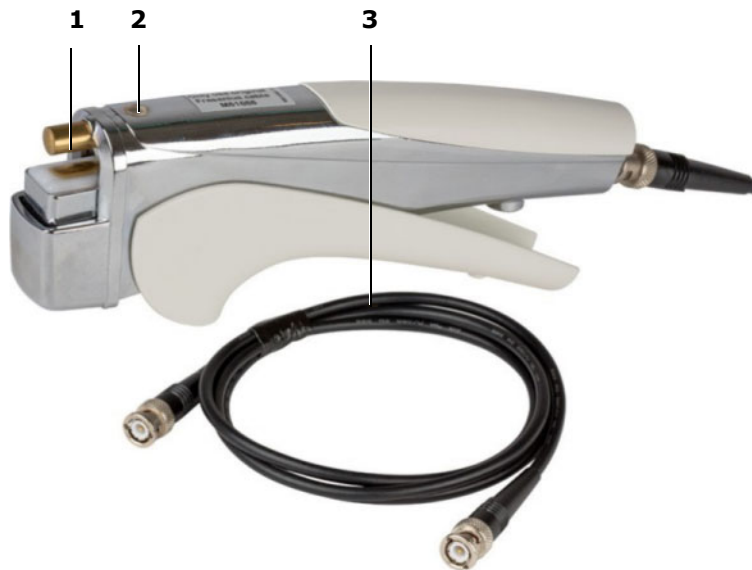

Fig. 53 Hand sealer
- Connect the exchangeable cable (Fig. 53, Item 3) with the hand sealer and the hand sealer HF connection (Fig. 2, Item 2) to the rear of the CompoGuard *Advance*. The connectors are put together and closed by turning them clockwise.
- To seal, place the tube to be sealed between the electrodes (Fig. 53, Item 1).
On the top, the LED indicator (Fig. 53, Item 2) of the hand sealer lights up during the sealing process. The sealing process is not completed until the indicator light is turned off.